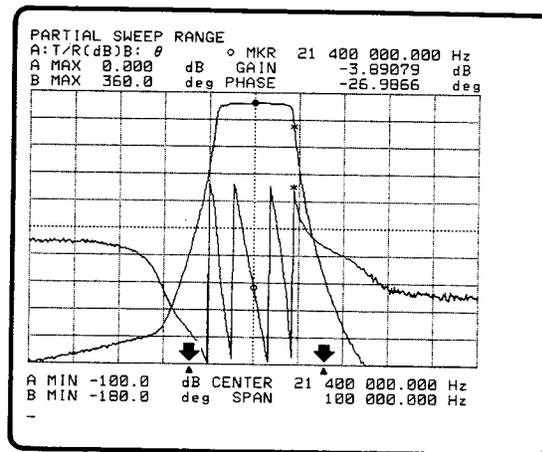

Figure 3-93. Partial Sweep Range
5. To verify the range settings, press the **'PART SWP on/off'** softkey, the "PART SWP on/off" label should intensify. The " " marks will be displayed below the graticule as shown in Figure 3-93, and the partial sweep will be performed between the limits set by the markers.
4. Press the **'PART SWP on/off'** softkey, the softkey label should change to intensified green. The "▲" marks will be displayed below the graticule as shown in Figure 3-93, and a partial sweep will be performed over the range set by the markers.